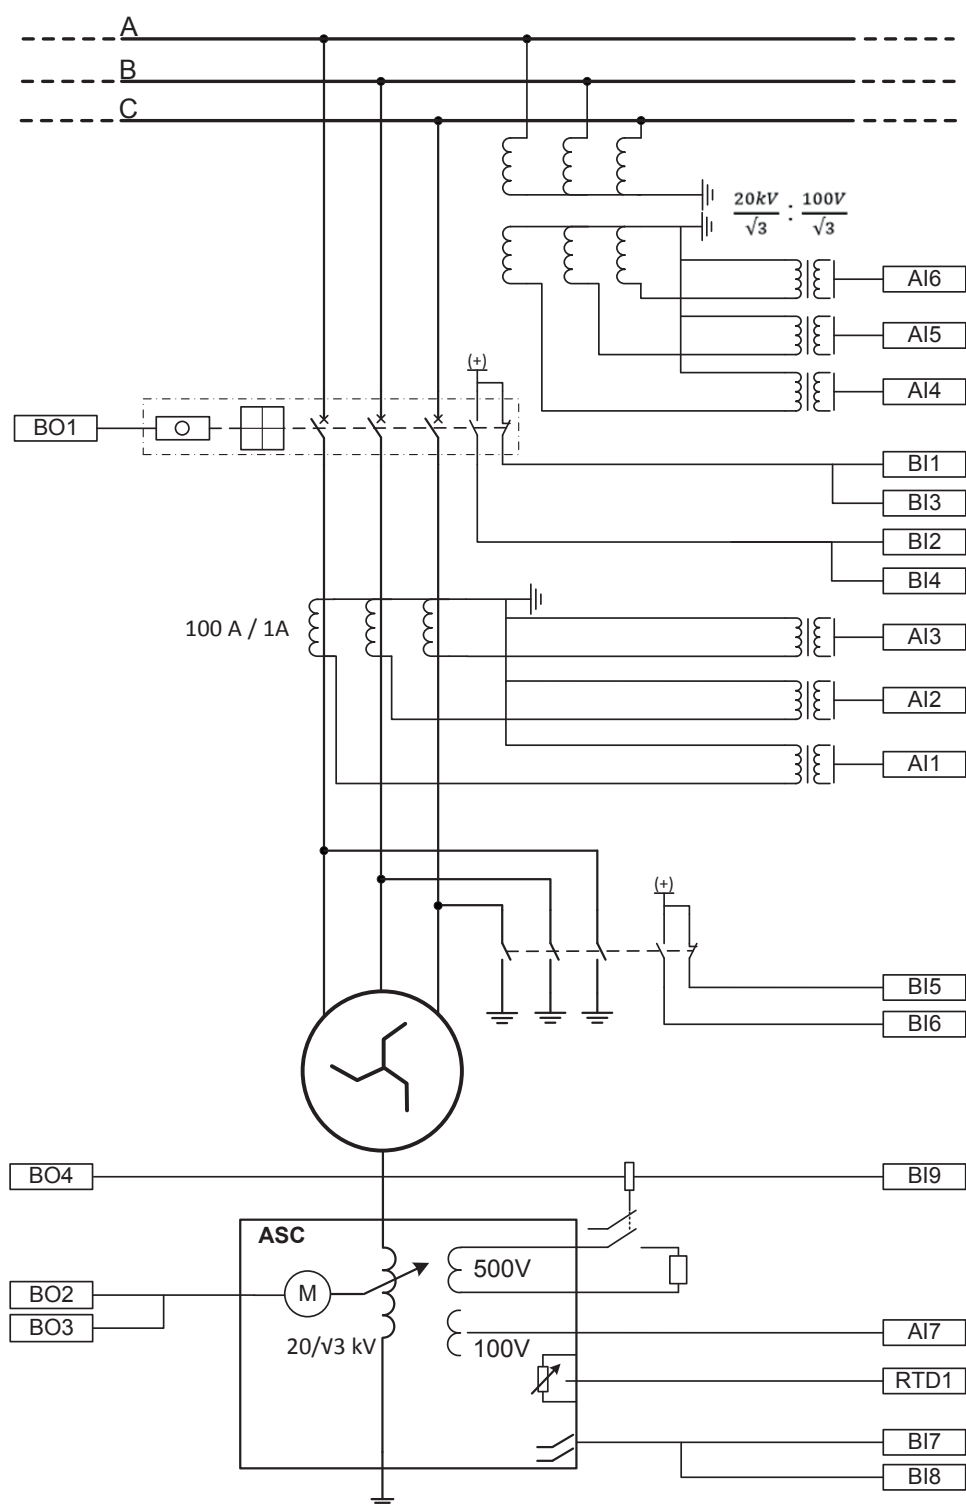

Figure 161: Relay interface for a Petersen coil controller example
Figure 161 presents analog input (AI), binary input (BI), binary output (BO) and resistance temperature detector (RTD) signals that are used to implement the example case.